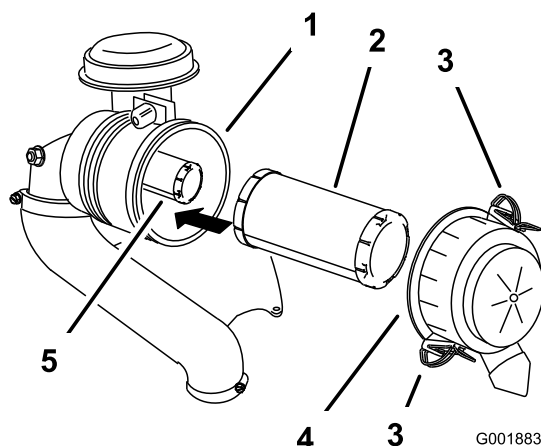

Figure 45
2. Release the latches on the air cleaner and pull the air cleaner cover off the air cleaner body (Figure 45).
4. Gently slide the primary filter out of the air cleaner body (Figure 45).
2. If the safety filter is being replaced, carefully slide it into the filter body (Figure 45).
3. Carefully slide the primary filter over the safety filter (Figure 45).
5. Install the air cleaner cover with the side indicated as **up** facing upward and secure the latches (Figure 45).